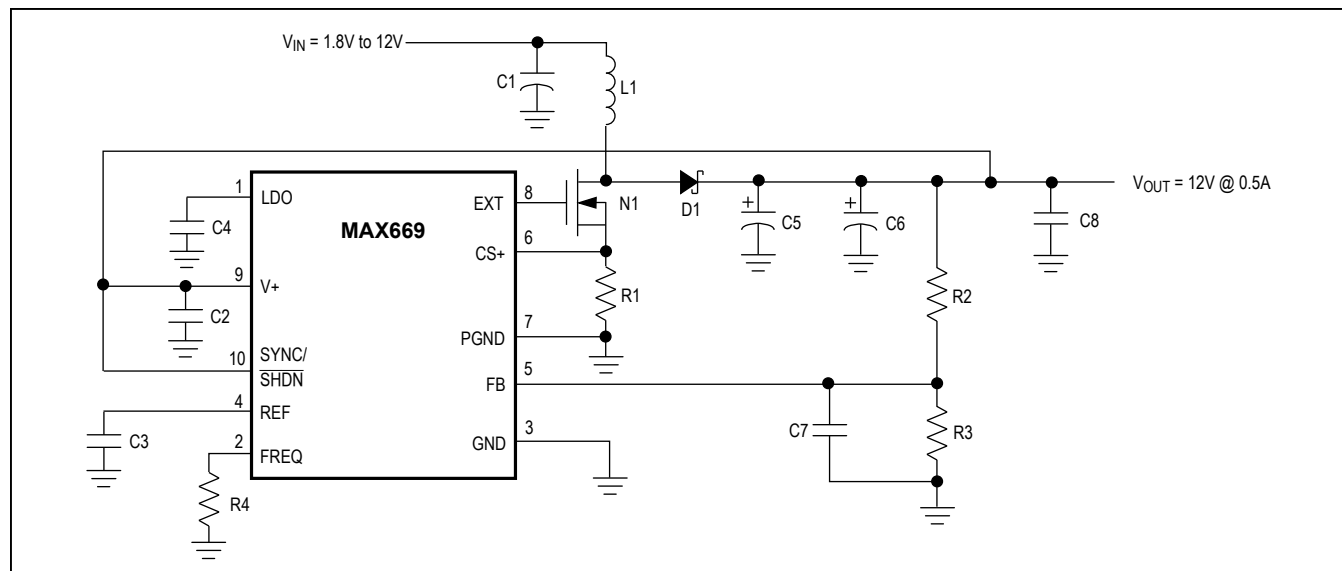
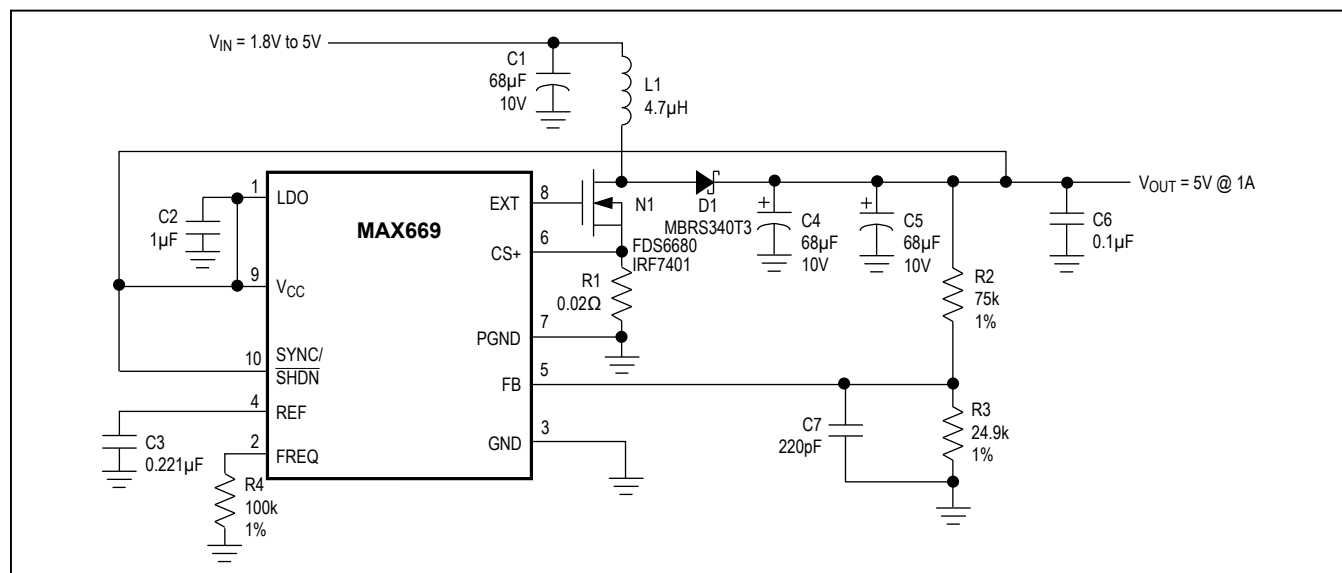
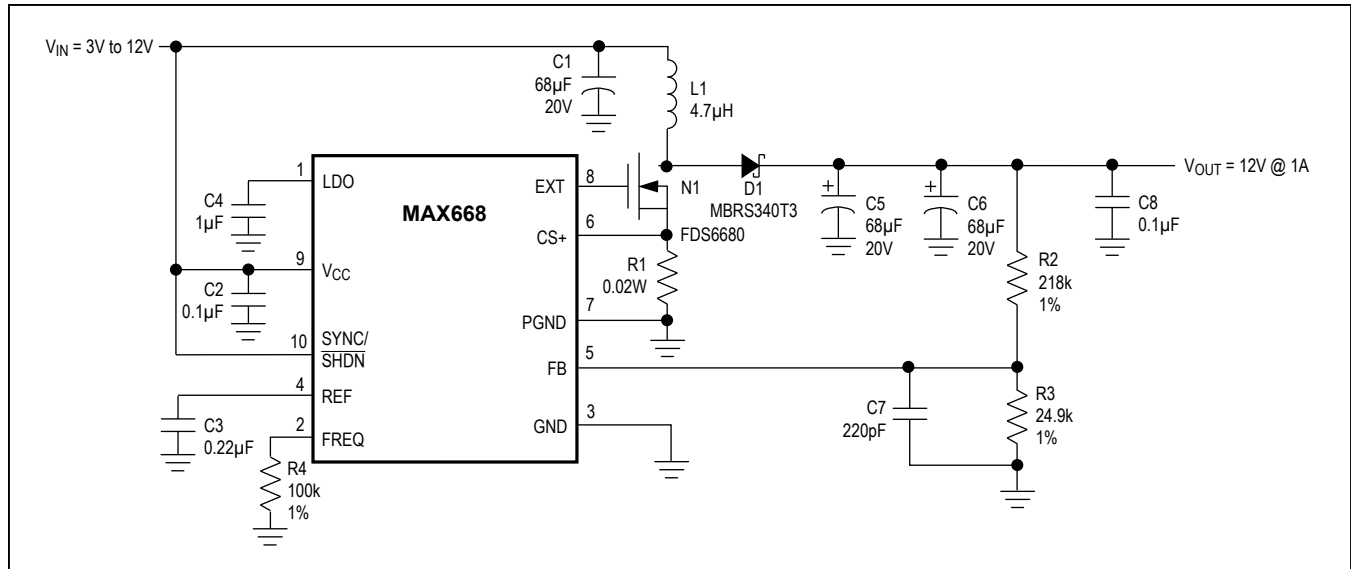
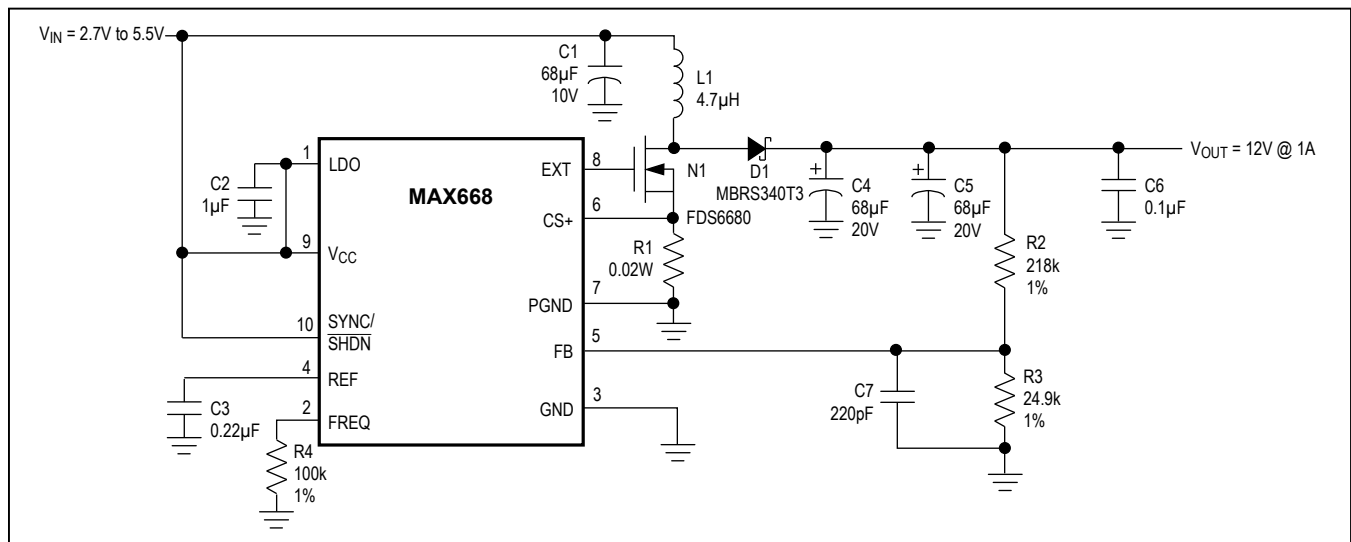

Figure 2. MAX669 High-Voltage Bootstrapped Configuration
Figure 3. MAX669 Low-Voltage Bootstrapped Configuration
Figure 4. MAX668 High-Voltage Non-Bootstrapped Configuration
Figure 5. MAX668 Low-Voltage Non-Bootstrapped Configuration
(Circuits of Figures 2, 3, 4, and 5; $T_A = +25^\circ\text{C}$; unless otherwise noted.)
(Circuits of Figures 2, 3, 4, and 5; $T_A = +25^{\circ}\text{C}$; unless otherwise noted.)
V_{CC} and LDO allow a variety of biasing connections to optimize efficiency, circuit quiescent current, and full-load start-up behavior for different input and output voltage ranges. Connections are shown in Figure 2, Figure 3, Figure 4, and Figure 5. The characteristics of each are outlined in Table 1.
With V_{CC} connected to V_{OUT} , as in Figure 2, EXT voltage swing is 5V when V_{CC} is 5.2V or more, and $V_{CC} - 0.2V$ when V_{CC} is less than 5.2V. If the output voltage does not exceed 5.5V, the on-chip regulator can be disabled by connecting V_{CC} to LDO (Figure 3). This eliminates the LDO forward drop and supplies maximum gate drive to the external FET.
With non-bootstrapped operation, the IC is powered from the input voltage (V_{IN}) or another source, such as a logic supply. Non-bootstrapped operation (Figure 4) is recommended (but not required) for input voltages above 5V, since the EXT amplitude (limited to 5V by LDO) at this voltage range is no higher than it would be with bootstrapped operation. Note that non-bootstrapped operation is *required* if the output voltage exceeds 28V, since this level is too high to safely connect to V_{CC} . Also note that **only the MAX668 can be used with non-bootstrapped operation.**
If the input voltage does not exceed 5.5V, the on-chip regulator can be disabled by connecting V_{CC} to LDO (Figure 5). This eliminates the regulator forward drop and supplies the maximum gate drive to the external FET for lowest on-resistance. Disabling the regulator also reduces the non-bootstrapped minimum input voltage from 3V to 2.7V.
* For standard step-up DC-DC circuits (as in Figures 2, 3, 4, and 5), regulation cannot be maintained if V_{IN} exceeds V_{OUT} . SEPIC and transformer-based circuits do not have this limitation.
The output voltage is set by two external resistors (R_2 and R_3 , Figure 2, Figure 3, Figure 4, and Figure 5). First select a value for R_3 in the 10kΩ to 1MΩ range. R_2 is then given by:
where $R2$ and $R3$ are the feedback resistors (Figure 2, Figure 3, Figure 4, and Figure 5). If the calculated value for C_{FB} results in a non-standard capacitance value, values from $0.5C_{FB}$ to $1.5C_{FB}$ will also provide sufficient compensation.
In non-bootstrapped configurations (Figure 4, and Figure 5), the MAX668 can start up with any combination of output load and input voltage at which it can operate when already started. In other words, there are no special limitations to start up in non-bootstrapped circuits.
Figure 5 shows the MAX668 operating in a 5V to 12V boost application. This circuit provides output currents of greater than 1A at a typical efficiency of 92%. The MAX668 is operated in non-bootstrapped mode to minimize the input supply current. This achieves maximum light-load efficiency. If input voltages below 5V are used, the IC should be operated in bootstrapped mode to achieve best low-voltage performance.